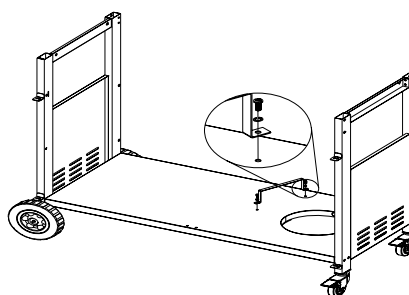

Figure 4
4. Attach gas tank support to bottom panel using (2) 1/4 x 3/8" Phillips head screws and (2) 1/4" lock washers. (Fig.4)